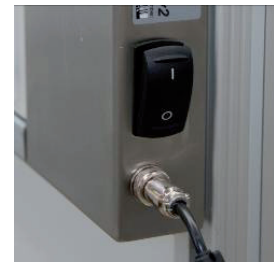

fig. 3.1-32
Schritt 26 Connect the barrel connector to the 24 V jack of the tWall®, the adapter to the power supply line (Euro connector) and the power supply line to a socket and switch on the tWall® (*fig. 3.1-32*)